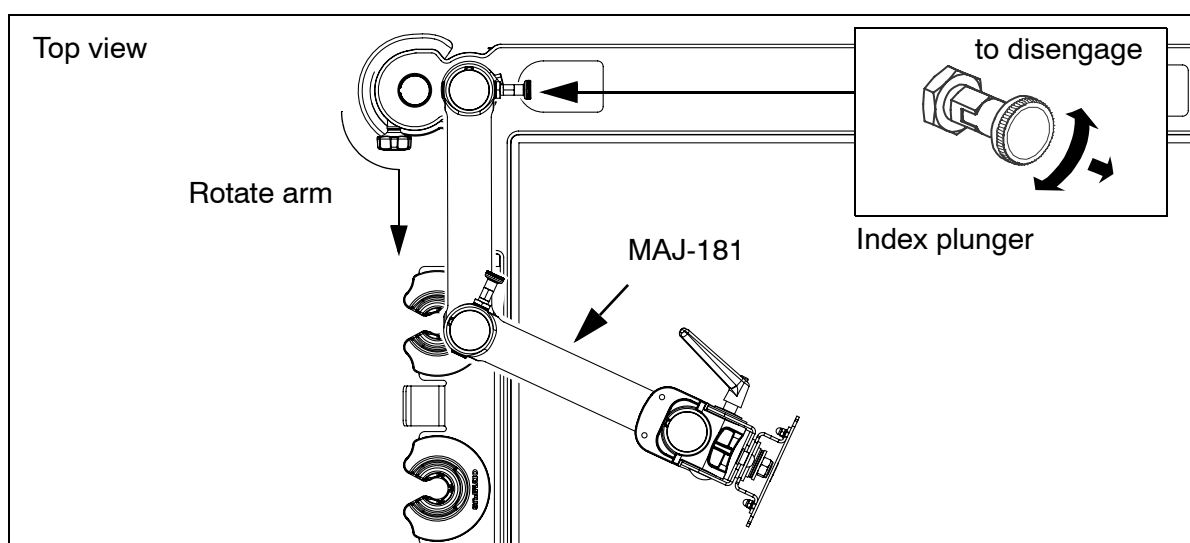

**Figure 4.9**
2. Referring to Figure 4.9, pull out the finger grip on the lower index plunger and rotate it 90°, the arm is now free to rotate. Rotate the arm until parallel with the top tray as shown.